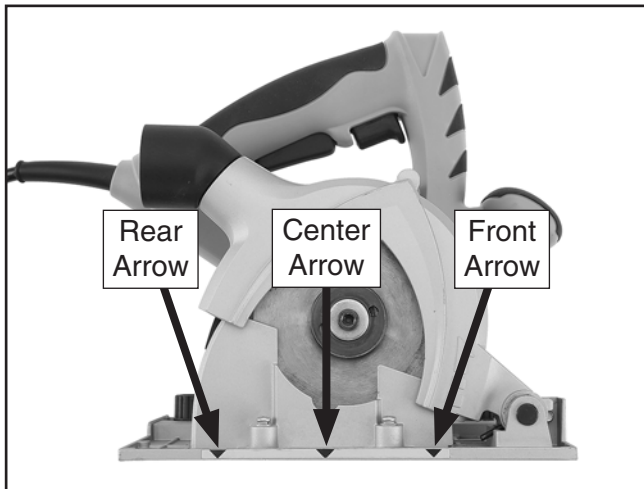

Figure 18. Cutting indicator arrows.
3. Align start cut-point with rear cutting indicator arrow (see **Figure 18**). This arrow marks maximum rear cutting distance blade will travel when fully extended.